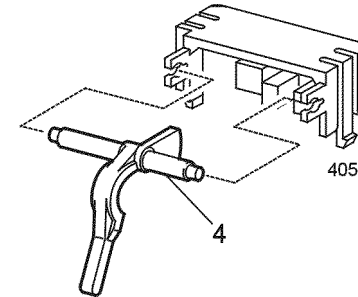

Figure 1 Stack Full Actuator
4. Carefully pull the actuator out of the holder (Figure 1).